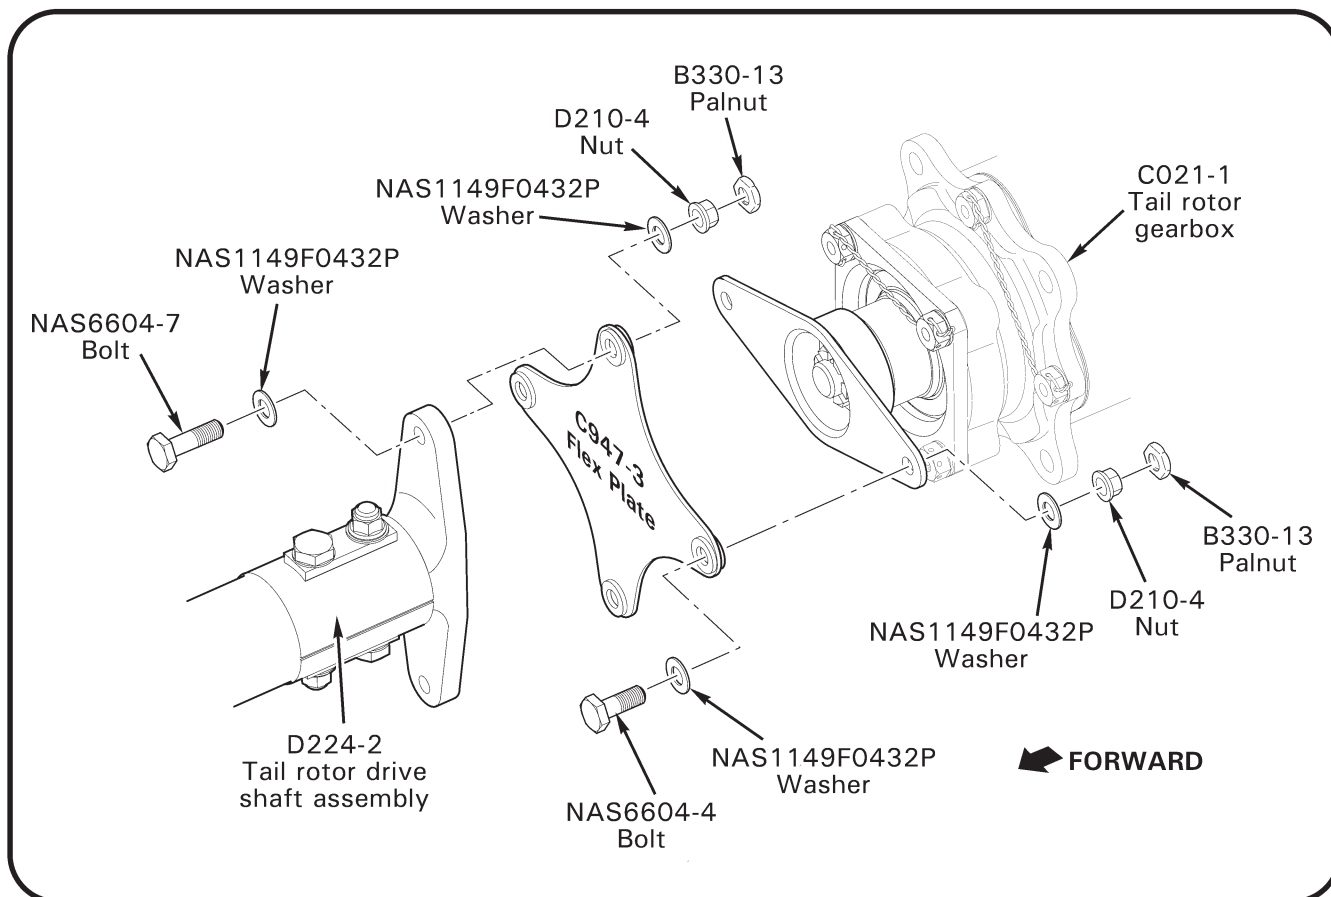

FIGURE 7-9 C947-3 AFT FLEX PLATE INSTALLATION
- a) Refer to Figure 7-9. If not previously accomplished, install hardware securing C947-3 aft flex plate to tail rotor drive shaft's aft yoke. Standard torque bolts and palnuts per § 23-32 and torque stripe per Figure 2-1.
- b) Insert tail rotor drive shaft into tailcone and support aft end of drive shaft thru upper aft tailcone inspection hole to prevent damage and for alignment purposes. Using 3-foot socket extension, insert (2) NAS6603-3 bolts & washers, 1–2 turns only, to align drive shaft damper arm to its mounting bracket.